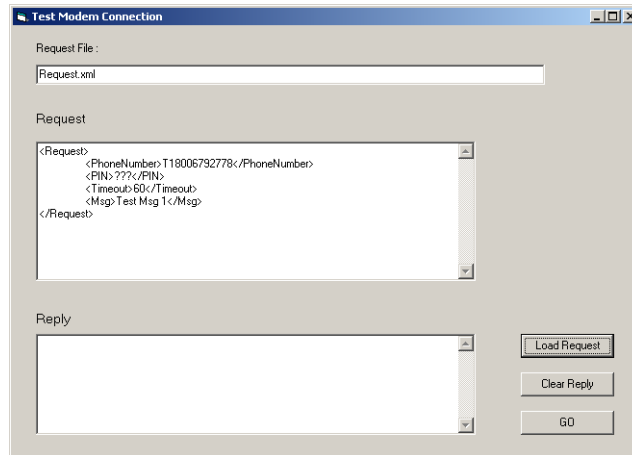

Figure 94. Modem Hardware Test Utility
3. Click **Load Request** and the modem test utility code appears in the Request field as shown in Figure 94.